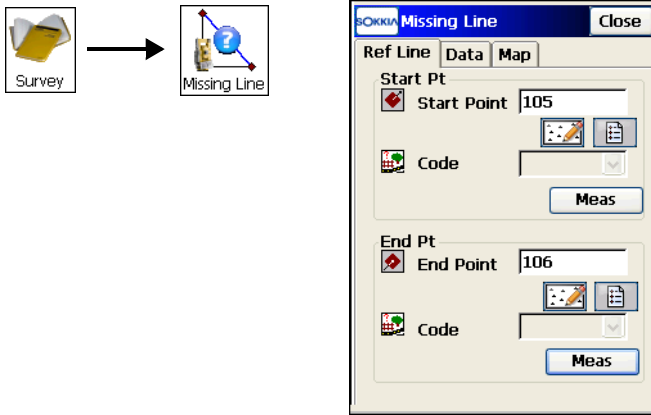

Figure 8-52. Missing Line – Ref Line Tab
1. To start working, tap **Survey** ► **Missing Line** (Figure 8-52 on page 8-48).